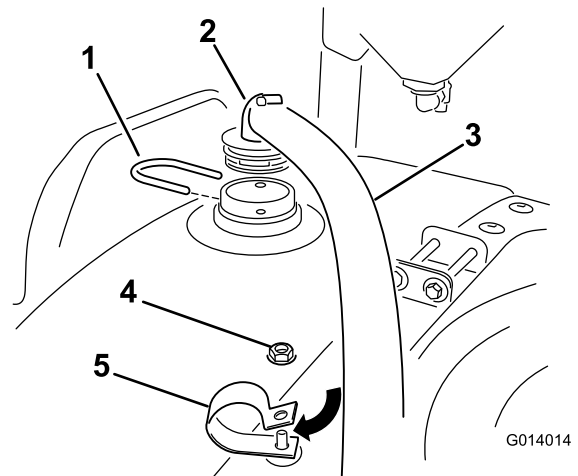

Figure 22
2. Install the hose end with the 90° fitting to the previously installed bulkhead using a retaining fork (Figure 22).
4. Install a lock nut over the bolt in the R-clamp and finger tighten at this time (Figure 22).